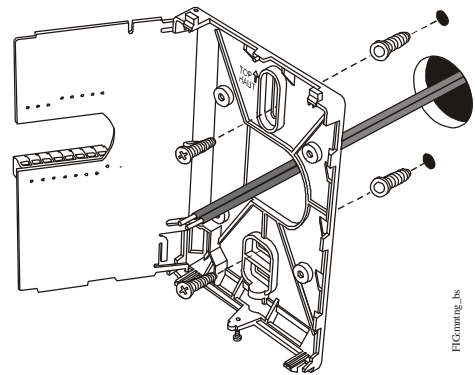

Figure 3: Securing the Mounting Base to the Wall
- Secure the mounting base to the wall surface using two mounting screws as illustrated in Figure 3.